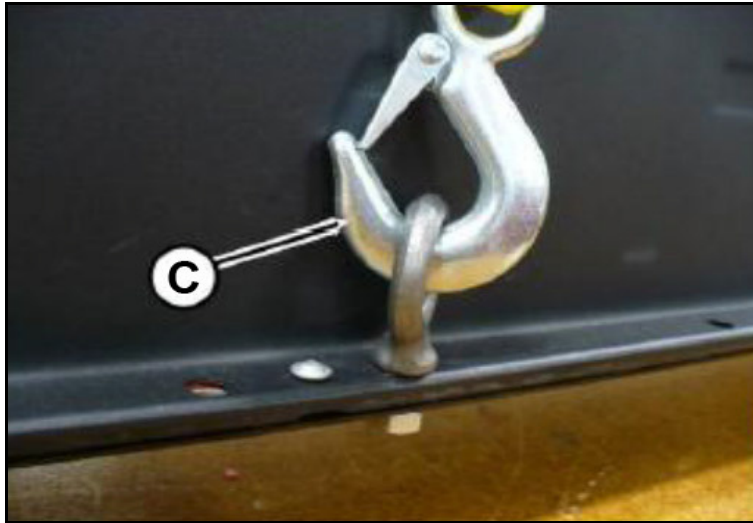

Figure 4C
4.3. Place the lift hooks (Figure 4C) of the lift sling into each eye-bolt.